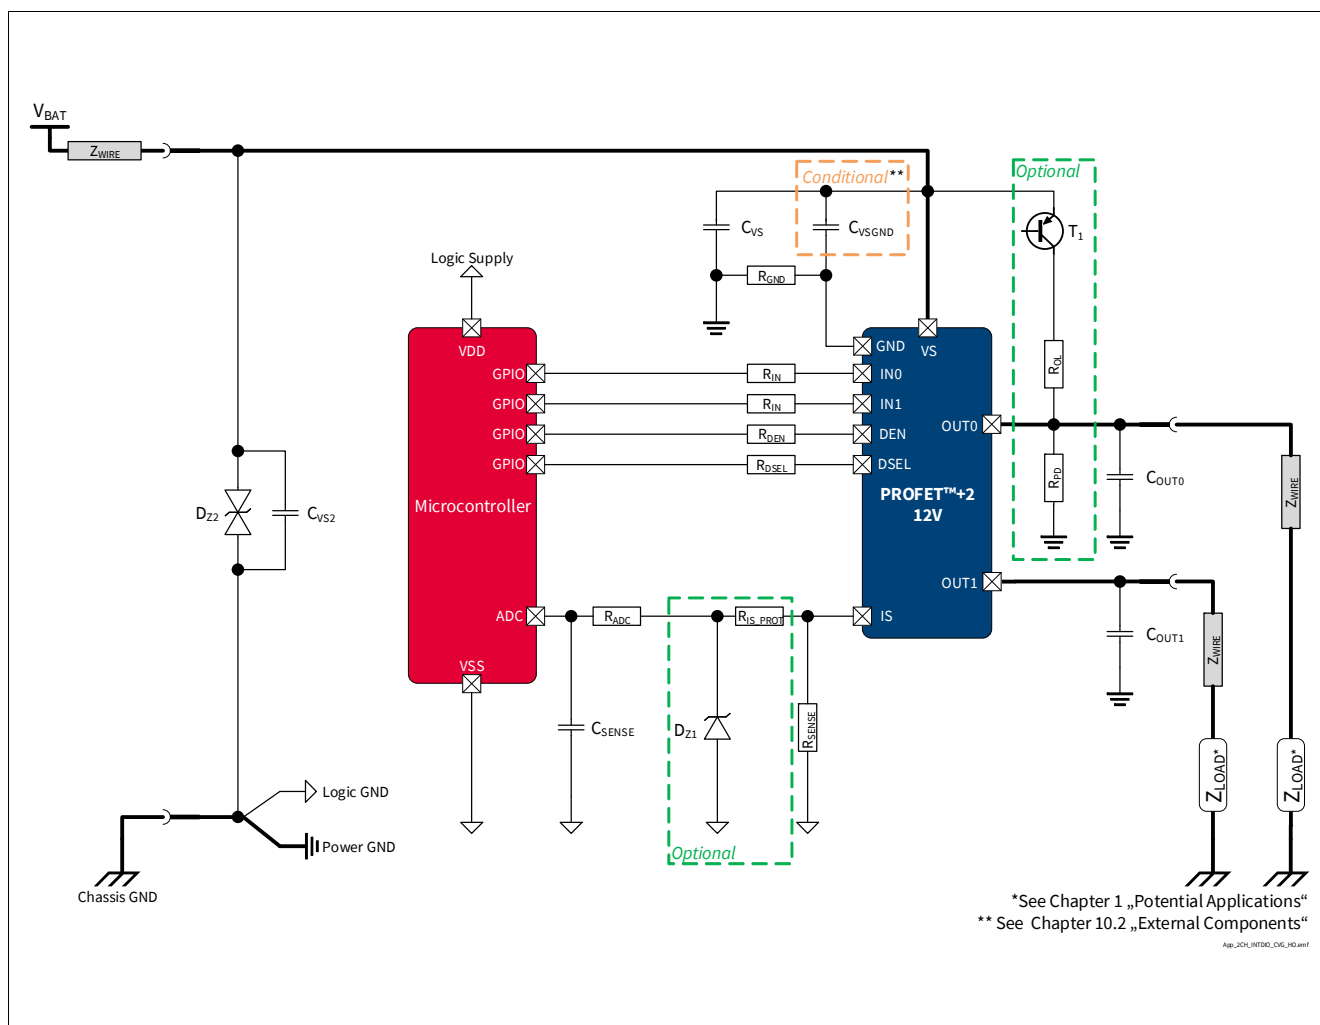

Figure 42 BTS7120-2EPA Application Diagram
1.03 , 2019-10-15	P_8.7.8.1, P_8.7.8.7, P_8.7.8.8 updated (added in Note or Test Condition: link to Figure 25) P_7.5.8.4, P_7.5.8.5 updated (added in Note or Test Condition: DEN = “low”; link to Figure 19) P_7.5.8.12 updated (added in Note or Test Condition: See Figure 21; deleted unnecessary space in Symbol: $dV_{OUT} / dt \rightarrow dV_{OUT} / dt$) P_8.7.8.6 updated (added in Note or Test Condition: see Figure 26) P_9.7.8.1 updated (added in Note or Test Condition: see Figure 33) P_9.7.8.5 updated (Min./Max.: -45%/+45% $\rightarrow$ -27.0%/+27.0%) P_9.7.8.6 updated (Min./Max.: -36%/+36% $\rightarrow$ -25.5%/+25.5%) P_9.7.8.8 updated (Min./Max.: -30%/+30% $\rightarrow$ -24.0%/+24.0%) P_9.7.8.12 updated (Min./Max.: -14%/+14% $\rightarrow$ -12.5%/+12.5%) P_9.7.8.13 updated (Min./Max.: -11%/+11% $\rightarrow$ -8.8%/+8.8%) P_9.7.8.15 updated (Min./Max.: -6%/+6% $\rightarrow$ -6.0%/+6.0%) P_9.7.8.17 updated (Min./Max.: -5%/+5% $\rightarrow$ -5.0%/+5.0%) P_7.5.8.11 updated (added in Note or Test Condition: See Figure 19) Figure 1, Figure 42 updated Chapter 1 updated (or LED equivalent $\rightarrow$ or equivalent electronic loads (e.g. LED modules)) P_4.3.0.7 added Table 24 updated Chapter 5.1 updated (added: see Chapter 10 for the complete application setup overview)